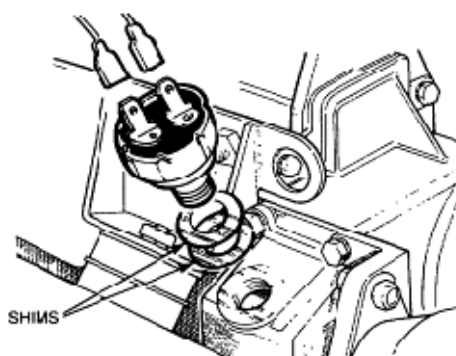

Figure 65 Differential Lock Engagement Switch Removal
- b.** Disconnect the two electrical wires and unscrew the switch complete with the shims (Figure 65).